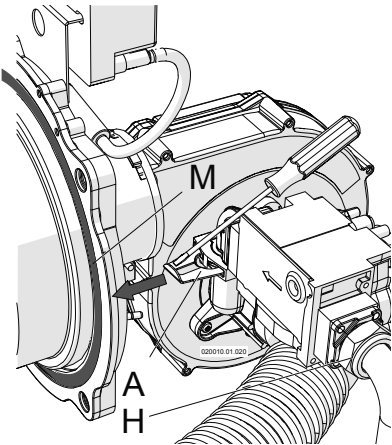
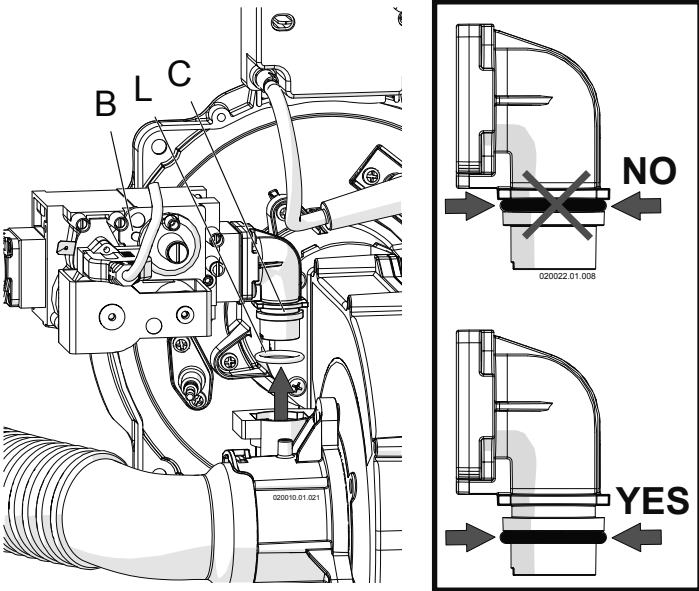

Figure 15-2 - Gas valve disassembly
Figure 15-3 - Gas valve lifting
- 4 - Unscrew fitting "H" in figure 15-2;
- 5 - With the help of a screwdriver, remove fork "A" in figure 15-2;
- 6 - Remove the gas valve with fitting "C" as in figure 15-3 (being careful of O-ring "L" in figure 15-3);
- 8 - Reinstall the gas valve, taking care to correctly position O-ring "L" in figure 15-3 and the gasket of fitting "H" in figure 15-2;
- 10 - Screw on fitting "H" in figure 15-2;
- 12 - Use a leak detection fluid to make sure there are no leaks from fitting "H" in figure 15-2;